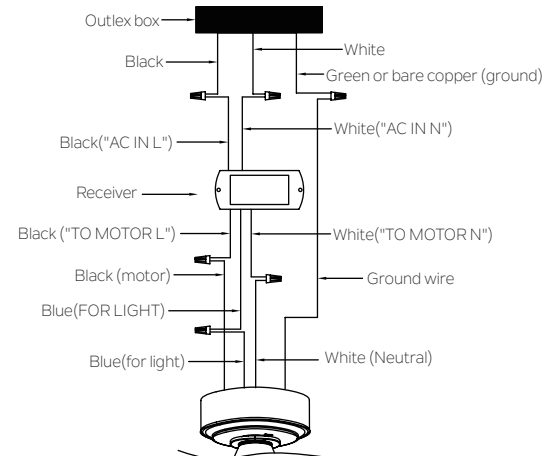

Fig. 14
Step 2. Motor to Receiver Electrical Connections: Connect the **BLACK** wire from the fan to **BLACK** wire marked "TO MOTOR L" from the receiver. Connect the **WHITE** wire from the fan to the **WHITE** wire marked "TO MOTOR N" from the receiver. Connect the **BLUE** wire from the fan to the **BLUE** wire marked "FOR LIGHT" from the receiver. Secure all the wire connections with the plastic wire connectors provided. (Fig. 14)
Step 3. Remote Receiver to Outlet Box Electrical Connections: Connect the **BLACK** (hot) wire from the ceiling to the **BLACK** wire marked "AC IN L" from the receiver. Connect the **WHITE** (Neutral) wire from the ceiling to the **WHITE** wire marked "AC IN N" from the receiver. Secure all the wire connections with the plastic wire connectors provided. (Fig. 14)
Step 4. If your outlet box has a ground wire (green or bare copper) connect it to the fan ground wires : otherwise connect the fan ground wire to the mounting bracket. Secure the wire connection with a plastic nut provided. After connecting the wires, spread them apart so that the green and white wires are on one side of the outlet box and black and blue wires are on the other side. (Fig. 14)